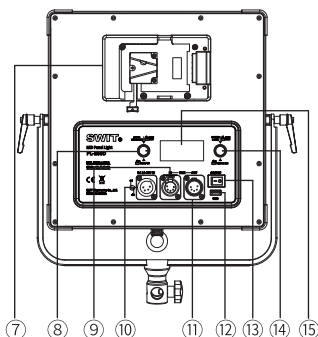
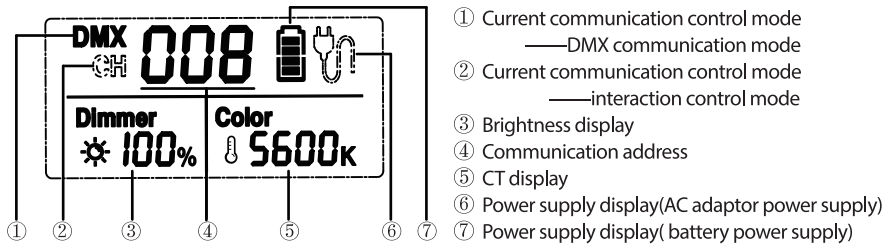

Fig.3 PL-E60D
Fig.5 LCD display
The light provides two ways of power supply, by V-mount or Gold mount battery or by 4-pin XLR AC-DC power. Turn on the light (Fig. 3 ⑬) and set the color temperature (Fig.3 ⑧) and brightness (Fig. 3 ⑭) to user's requirements.
The light provides two ways of adjusting the color temperature and brightness: normal adjusting mode and quick adjusting mode. User can switch the adjusting mode by press the dimmer knob and color temperature adjusting knob (Fig.3 ⑭/⑧). User can quickly set the dimmer and color temperature to their needs by combining two adjusting modes.
Press and hold dimmer knob (Fig.3 ⑭) for 2s to enter communication address setting interface, the address setting range is 001 to 512.
LCD digital tube (Fig.5 ④) flashing means the current address is selected, rotate the brightness adjusting knob (Fig.3 ⑭) to set the current address, press the brightness adjusting knob (Fig.3 ⑭) to confirm, when finish the last setting, press the brightness adjusting knob (Fig.3 ⑭) or wait for about 5s to quit.
Connect the lights network through using DMX cable. Press and hold color temperature adjusting knob (Fig.3 ⑧) for around 2 seconds to complete the communication control setting.
The upper left corner of LCD shows "DMX" (Fig. 5 ①) indicating that the communication control mode currently is the DMX communication mode. In this mode, connect the DMX signal output device to the lights network, and set up the communication address to work normally.
The upper left corner of LCD shows "CH" (Fig. 5 ②) indicating that the communication control mode currently is interaction control mode. In this mode, set the target lights to the same communication address to work normally, and the master slave machine is not distinguished.